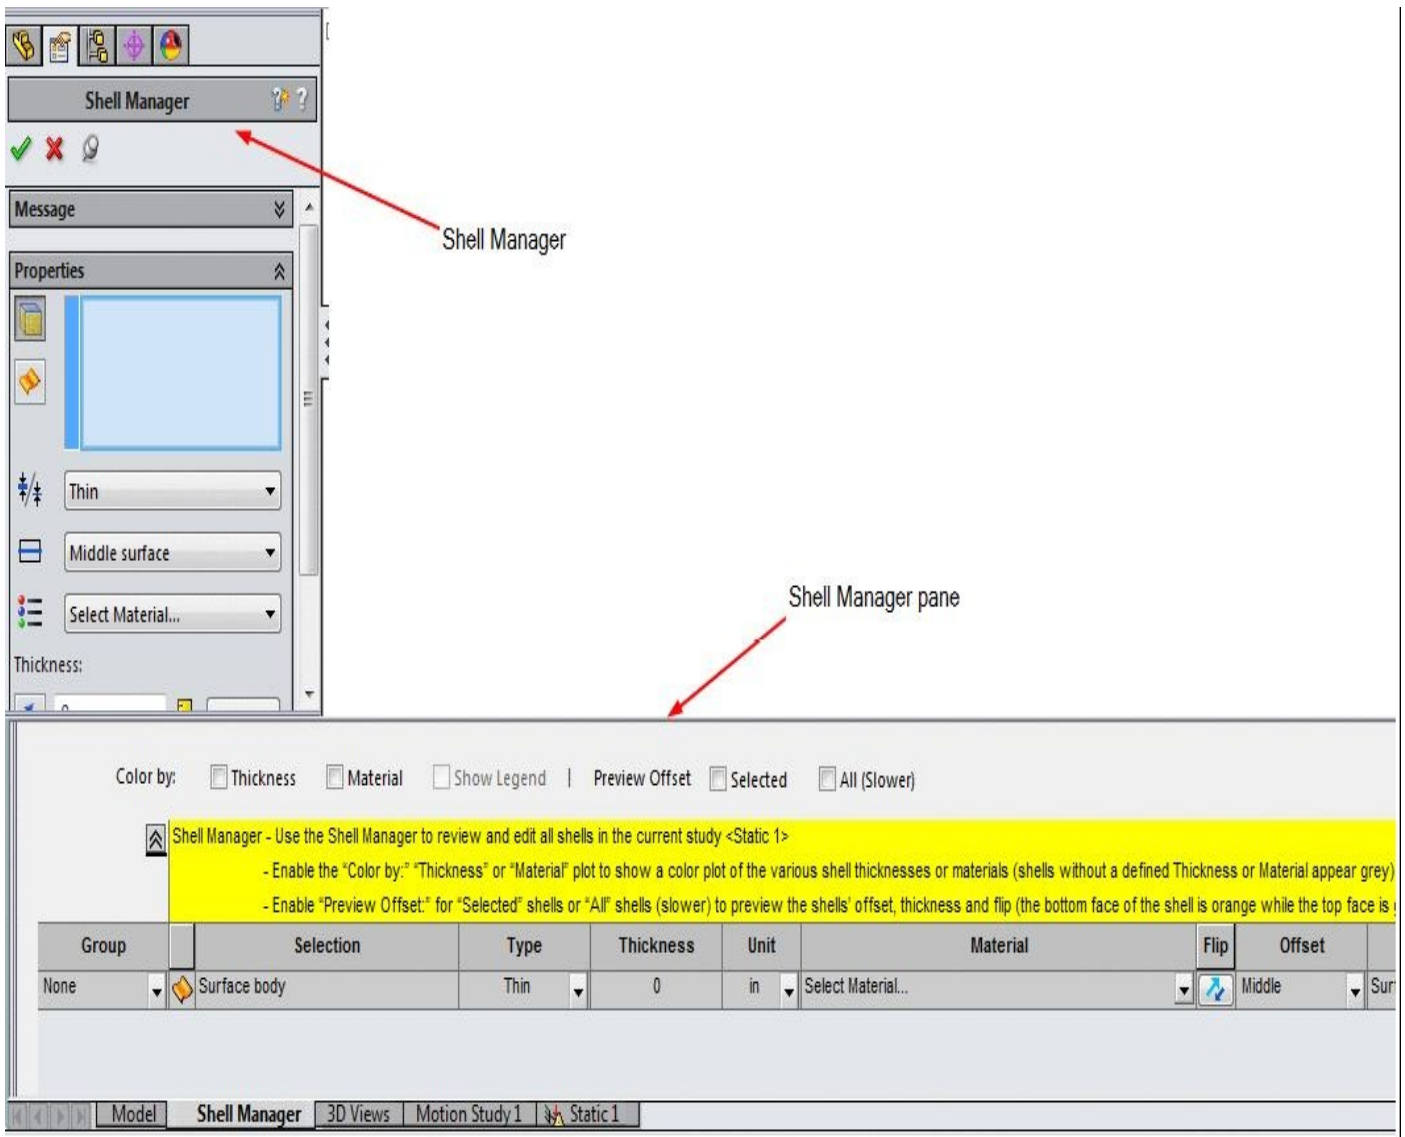

Figure-25. Shell Manager
- To assign thickness to the model, click on the **Shell Manager** tool from the **Simulation** tab of **Ribbon**. The Shell Manager will be displayed with Shell Manager pane; refer to Figure-25.